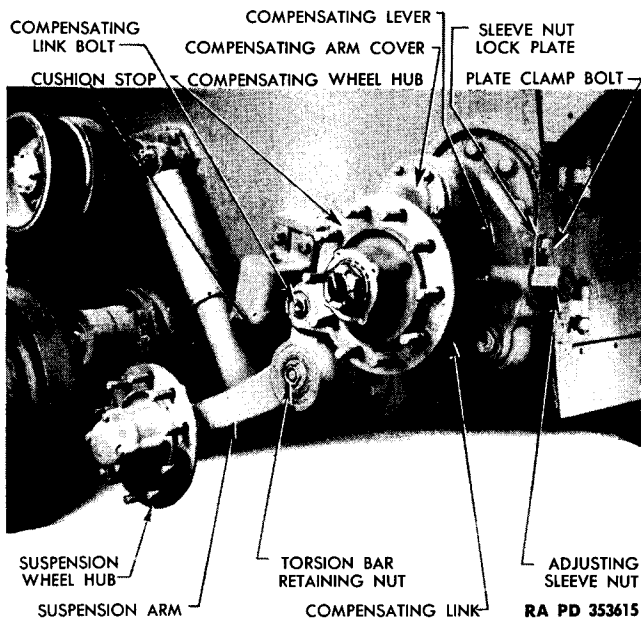

Figure 16. Compensating wheel linkage (M41).
f. **COMPENSATING WHEEL.** An adjustable compensating wheel for each track is mounted at the rear of the hull, and connected to the rearmost support arm by a link (fig. 16), so arranged that any increase in track tension due to lowering of the rear suspension wheels is offset by forward movement of the compensating wheel, and any decrease in track tension due to raising of the rear suspension wheels is offset by rearward movement of the compensating wheel.